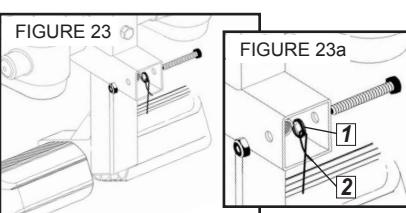

FIGURE 23a
- Insert the Bolt through the hole in the outer side of the housing, through both the Retainer Spring and Cable Loops, and through the hole in the other side of the housing (Figure 23a).